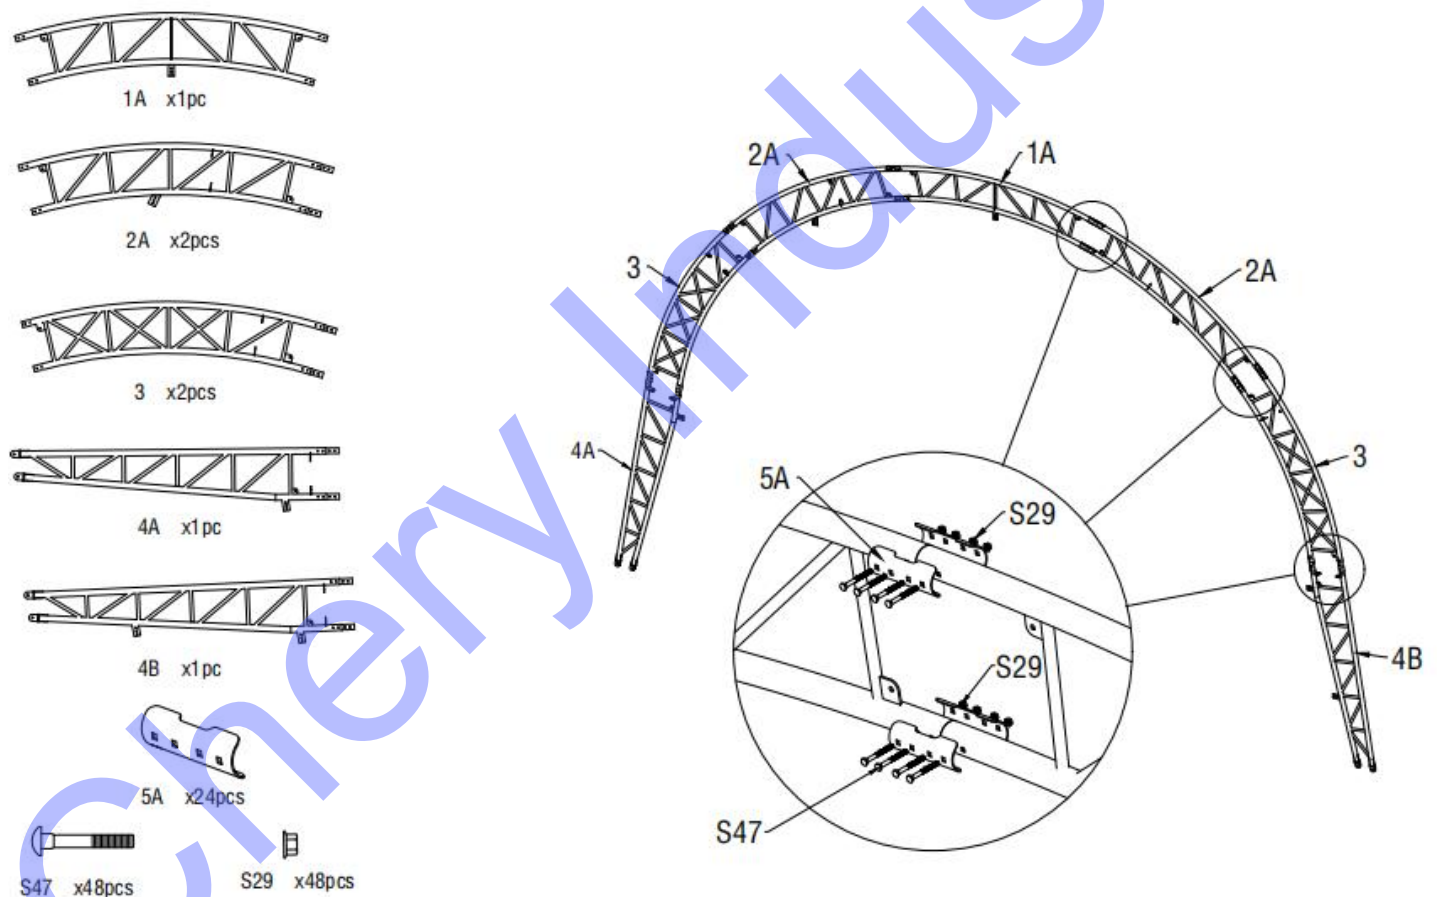

Figure 3
1. As Figure 3 shown to find one Top roof tube in the front and back door (No.1A), two Roof upper curving tube in the front and back door(No. 2A), two Roof middle curving tube in the front and back door (No. 3) ,two Lower curving tube in front and back door(4A) and assemble the first and final group arch with Carriage bolt M8x70 (No.S47). **DO NOT install the screw on the top of the truss where the fabric will rest.**